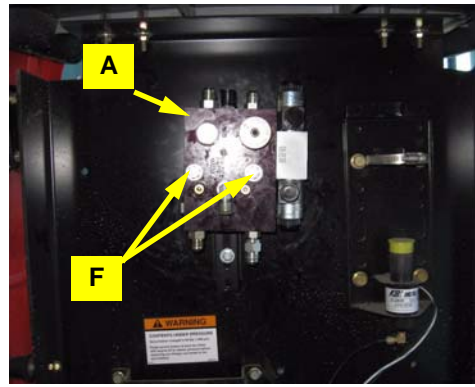

Figure 2c: Steering block - mounted
- c. Using provided hardware **F**, attach the prepared hydraulic steering block **A**—with its **P** and **T** ports uppermost—to the mounting bracket **D** (Figure 2c).